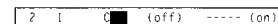

Fig.8.
- 5 Select, if necessary, a video input source (EXT) with $\Delta+$ or $\nabla-$. Then press OK. The first element of the CH position will be highlighted. (See Fig. 8.)